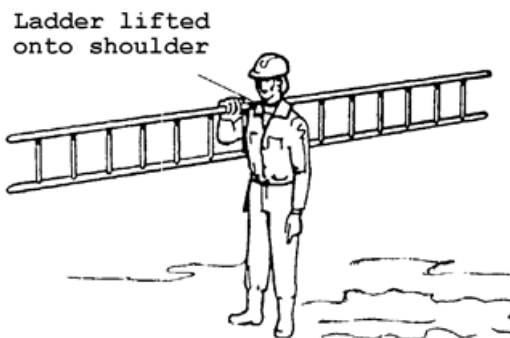

FIG 22.
- Lift the ladder onto the shoulder and grip the upper stile firmly to prevent the ladder from swinging and hitting other people. (Fig 22)